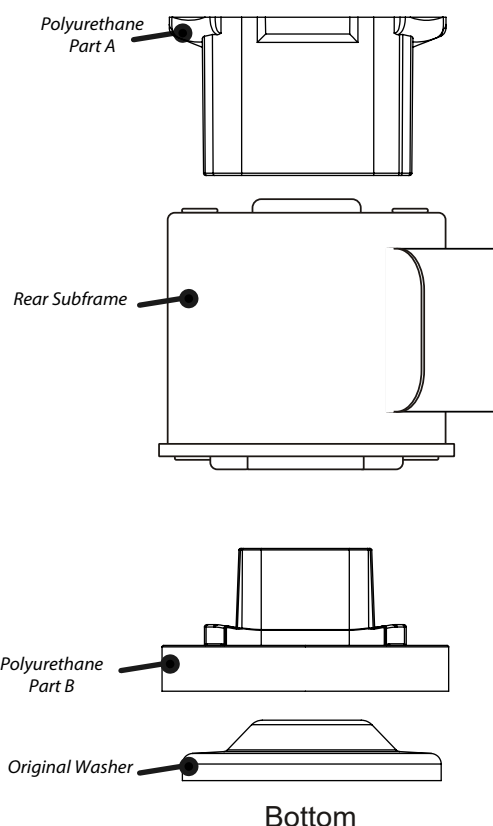

Figure 1
3. Fit part A polyurethane insert into the top side void on the subframe bush, as shown in Figure 1.
4. Fit part B polyurethane insert into the bottom side void on the subframe bush, as shown in Figure 1.